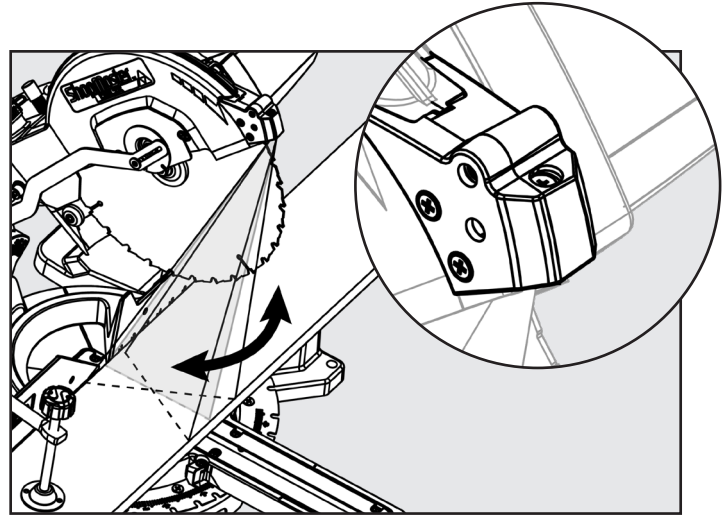

FIGURE 27
If you notice the laser line is not perfectly parallel with the saw blade refer to Figure 27 and follow these instructions: using a Phillips head screwdriver turn screw (A) until the laser line is parallel with the saw blade.